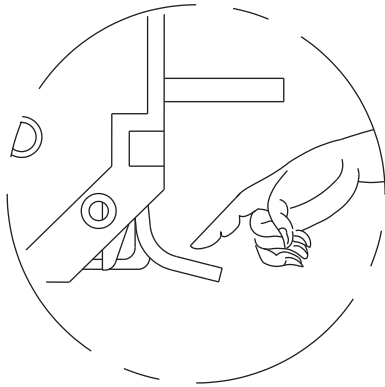

Figure 6 Removing card view 1
- **1-3 channels:** Press the lever on the right side, and the card will automatically pop up, as shown in Figure 6